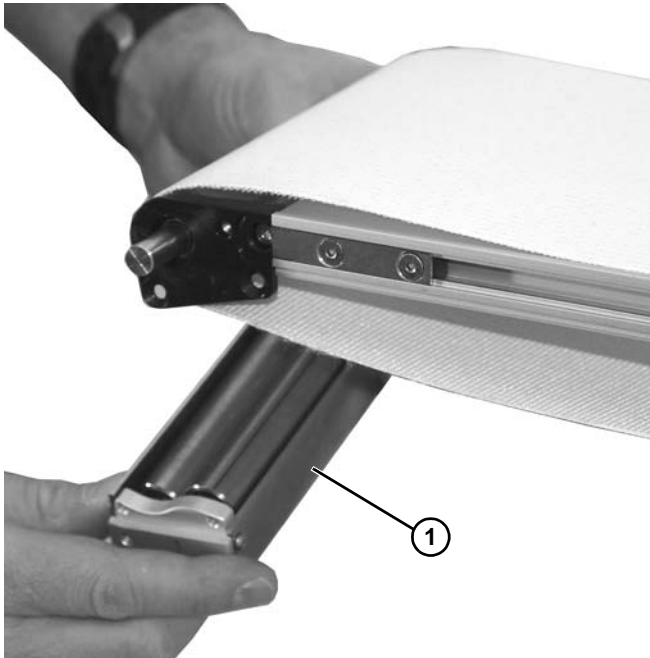

Figure 18
5. Lower pinch drive (**Figure 18, item 2**) from conveyor.